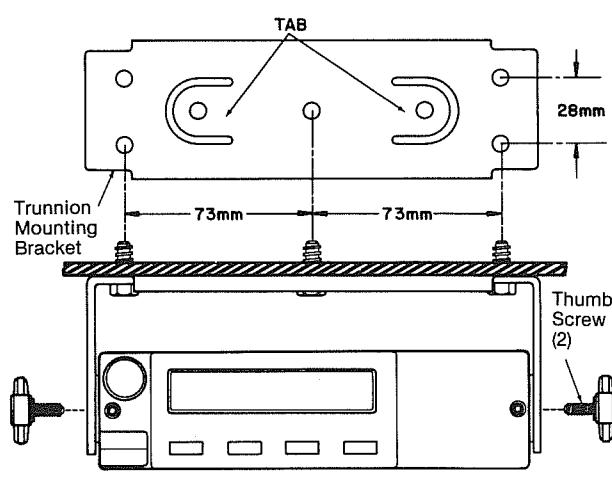

Figure 4
1.3 TO MOUNT THE RADIO WITH A TRUNNION UNDER THE DASH OR ON THE TRANSMISSION HUMP (Figure 4)